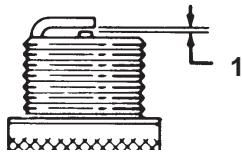

Figure 30
6. Set the gap between the electrodes on the spark plug at 0.030 in. (0.76 mm) as shown in Figure 30.